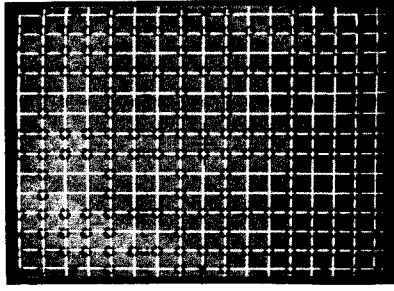

Fig. 5-4-18
- o Confirm that the center of linearity chart is aligned with the center of crosshatch pattern. If needed, adjust vertical and horizontal position of crosshatch pattern on the generator. (Fig. 5-4-18)